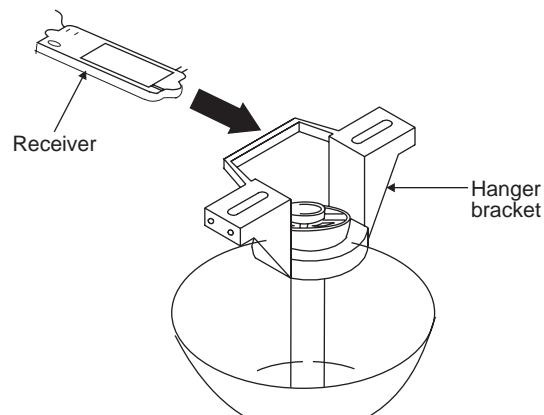

Figure 11
Step 1. (Fig. 11) Insert the receiver into the mounting bracket with the flat side of the receiver facing the ceiling.